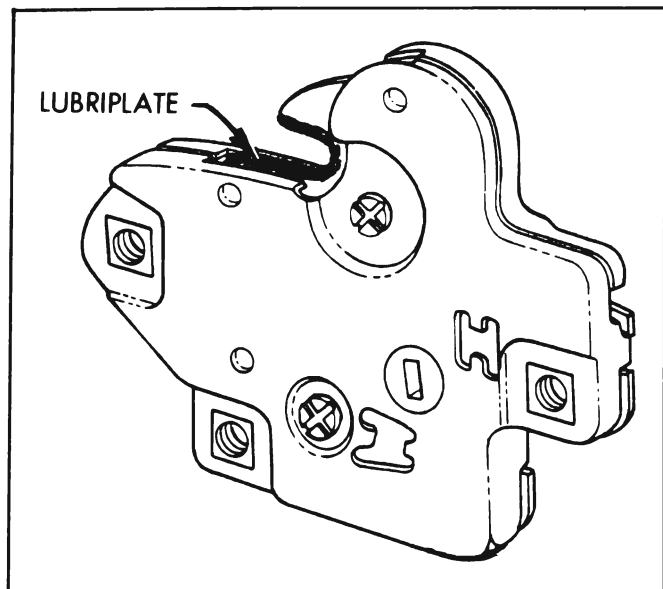

Figure 1-18—Lubrication of Rear Compartment Lid Lock Bolt
**13. Rear Compartment Lid and Back Door Locks.** Apply a thin film of Lubriplate or its equivalent to rear compartment lid locks (Figure 1-18). On back door locks, apply a thin film of